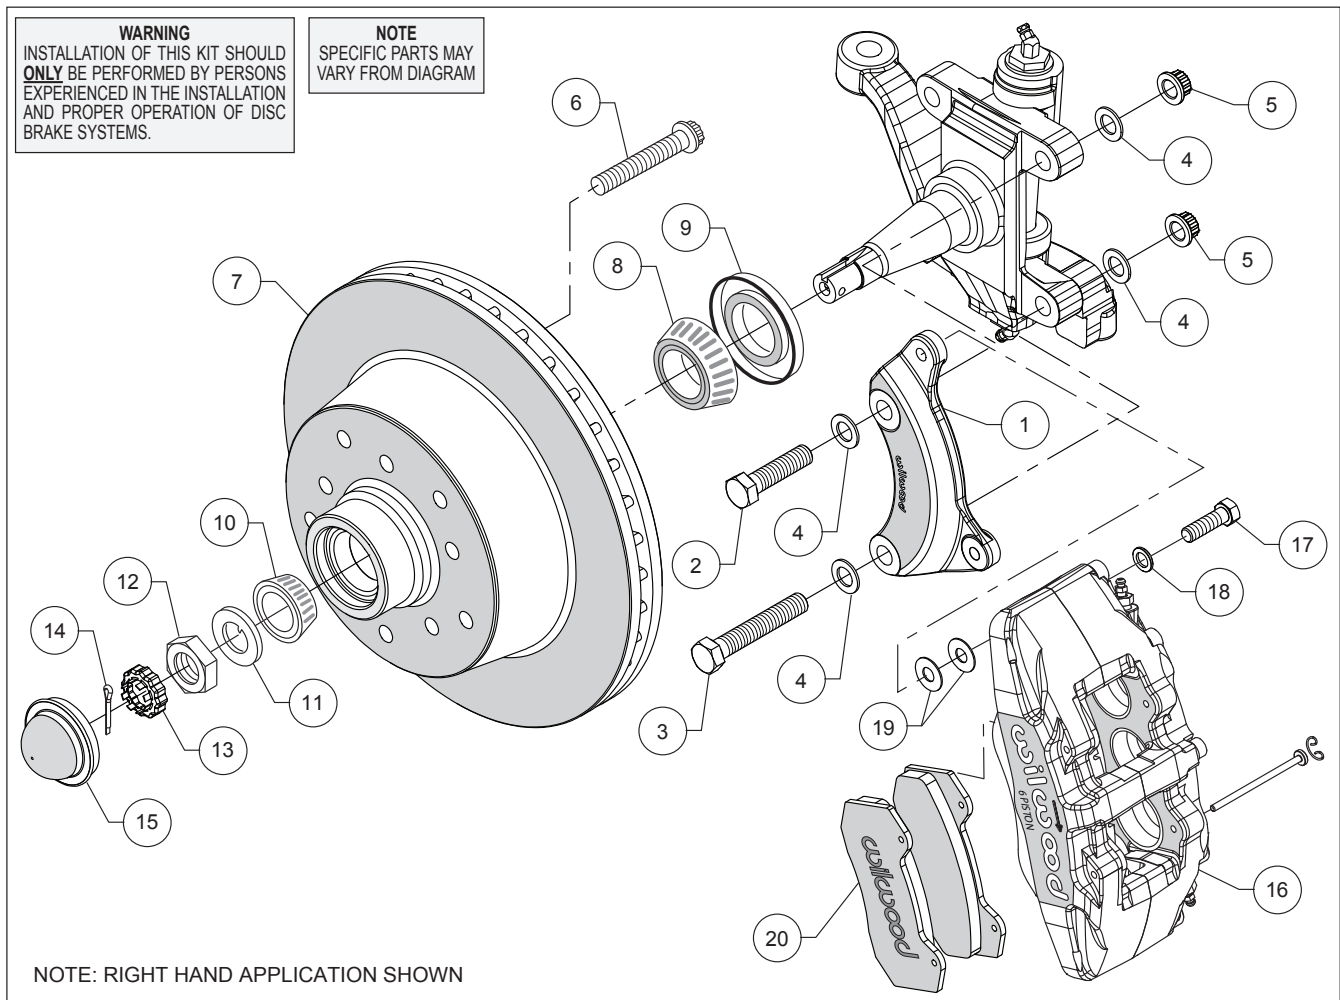

Figure 1. Typical Installation Configuration
Assembly Instructions (numbers in parenthesis refer to the parts list, on the preceding page and Figure 1):
- Orient the caliper mount bracket (1) as shown in Figure 1 and Photo 1, and install using bolts (2 and 3), washers (4) and lock nuts (5). Temporarily tighten the mounting bolts. **NOTE:** The bracket must fit squarely against the mount bosses on the upright. Inspect for interference from casting irregularities, machining ridges, burrs, etc. Torque lock nuts to 65 ft-lb.
- Press the dust cap (15) into the hub (7), Photo 6. **NOTE:** Do not hammer center of cap. Install using outer flange only.
- **NOTE:** This kit contains distinct right and left hand calipers that must be mounted in a specific direction, as described below. Mount the caliper (16) onto the caliper mounting bracket (1) using bolts (17) and washers (18), as shown in Figure 1. Initially place two .035" thick shims (19) on each bolt between the caliper and the bracket, Photo 7. Ensure that the caliper is mounted so the largest pistons are at the rotor exit end of the caliper, in relation to the direction of rotor rotation. Temporarily tighten the mounting bolts and view the rotor (7) through the top opening of the caliper. The rotor should be centered in the caliper, Photo 8. If not, adjust by adding or subtracting shims (19) between the bracket and the caliper. Always use the same amount of shims on each of the two mounting bolts. If necessary place spare shims between washer (18) and caliper mounting ear to achieve the proper clinch nut engagement. Once the caliper alignment and clinch nut engagement are correct, remove the caliper.
- Remove the two pad retaining pins from the caliper (16) by carefully popping out the pin retaining clips and sliding out the pins. Insert the brake pads (20) into the caliper from the bottom, Figure 1 and Photo 9, with the friction material facing the rotor. Secure the brake pads in place with the pad retaining pins and clips, Photo 10. Reinstall the caliper onto the caliper mounting bracket. Apply red *Loctite*® 271 to bolt threads (17), and torque to 40 ft-lb.